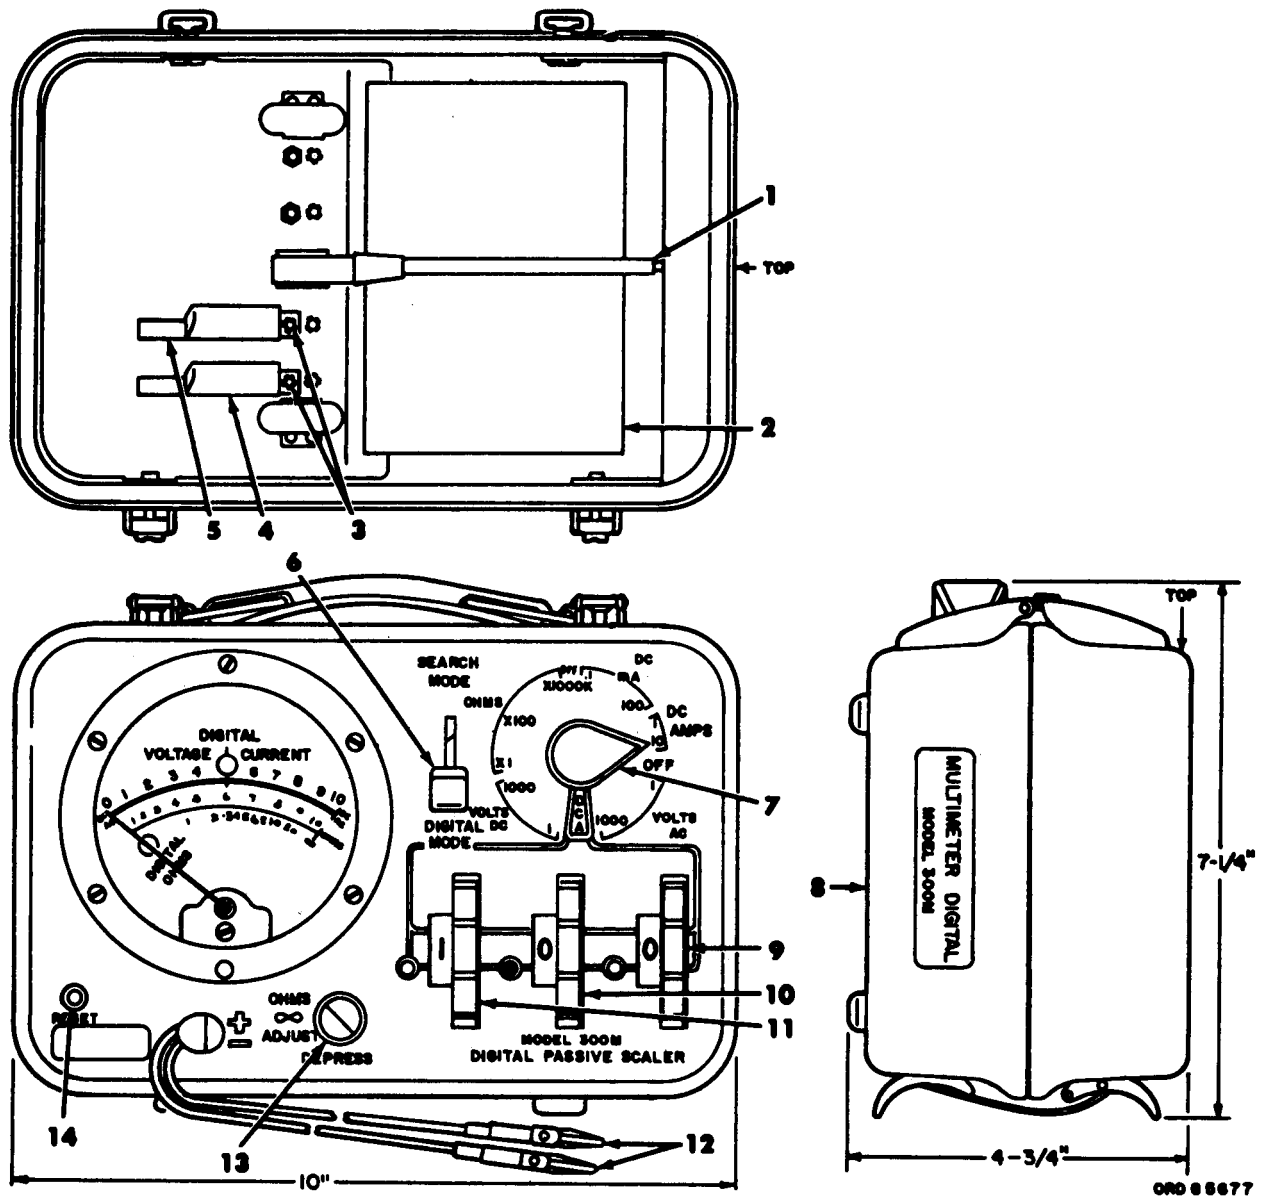
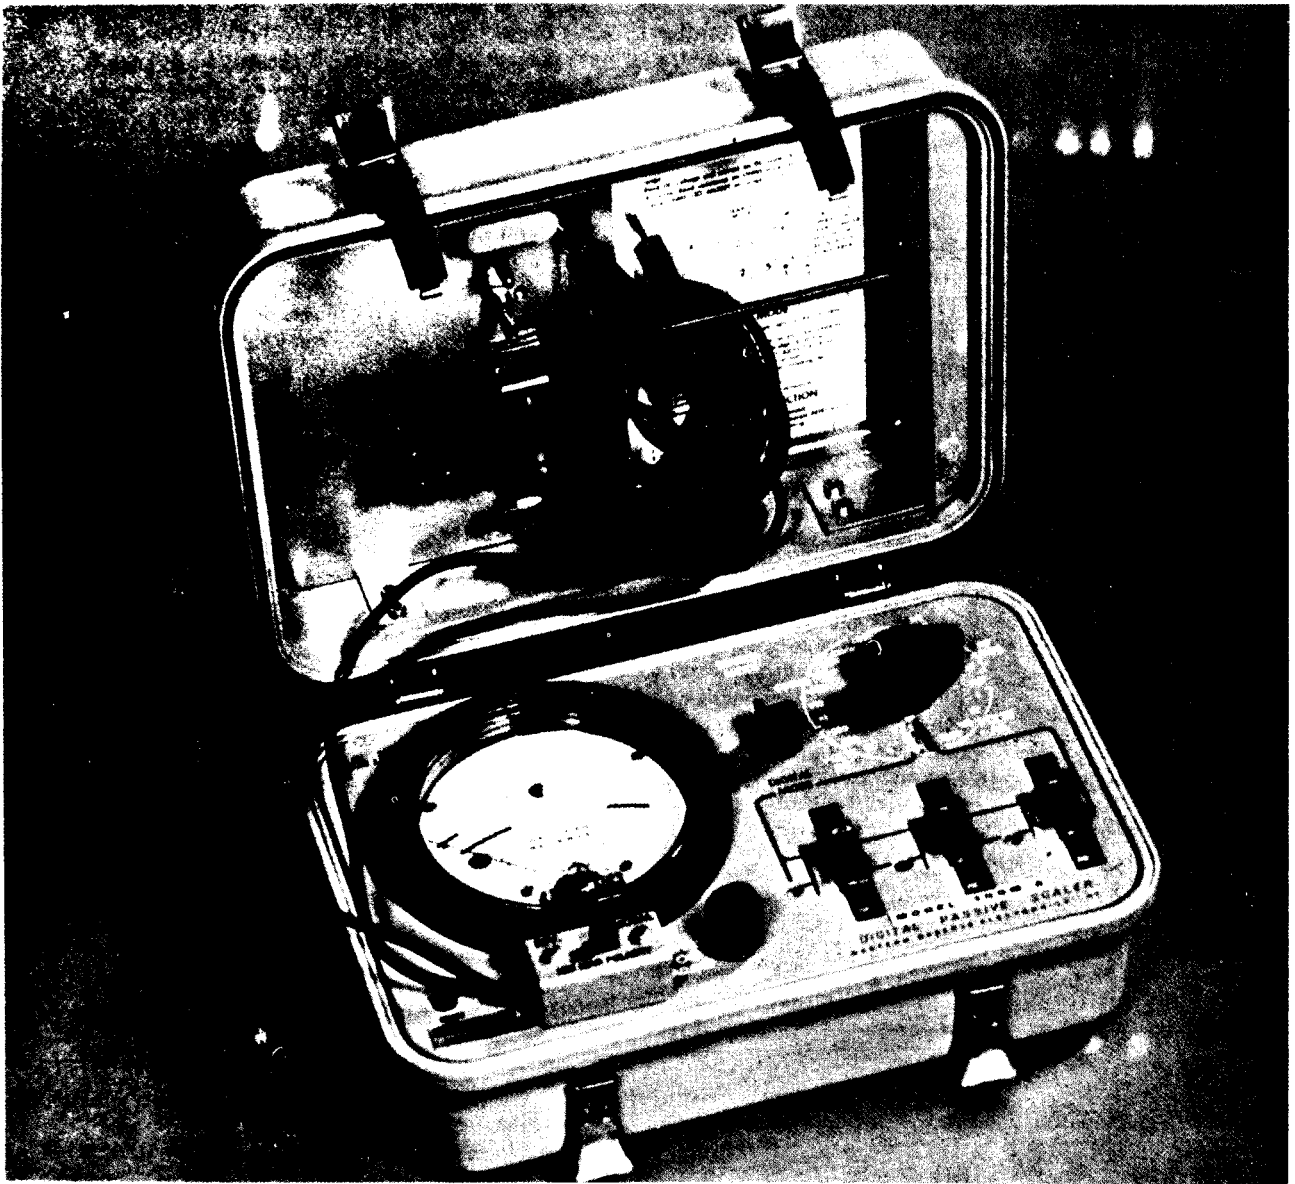

Figure 1. Model 300M multimeter.
Figure 1.1 Multimeter AN/USM-303A
a. Purpose. Multimeters AN/ USM-303 and AN/ USM-303A (multimeter) (fig. 1) (fig. 1.1) measure direct current (dc) and alternating current (ac) voltages, direct current, and resistance in electrical and electronic equipment.
5.1. Items Comprising Multimeter AN/ USM-303 or AN/ USM-303A (fig. 1 and 1.1)